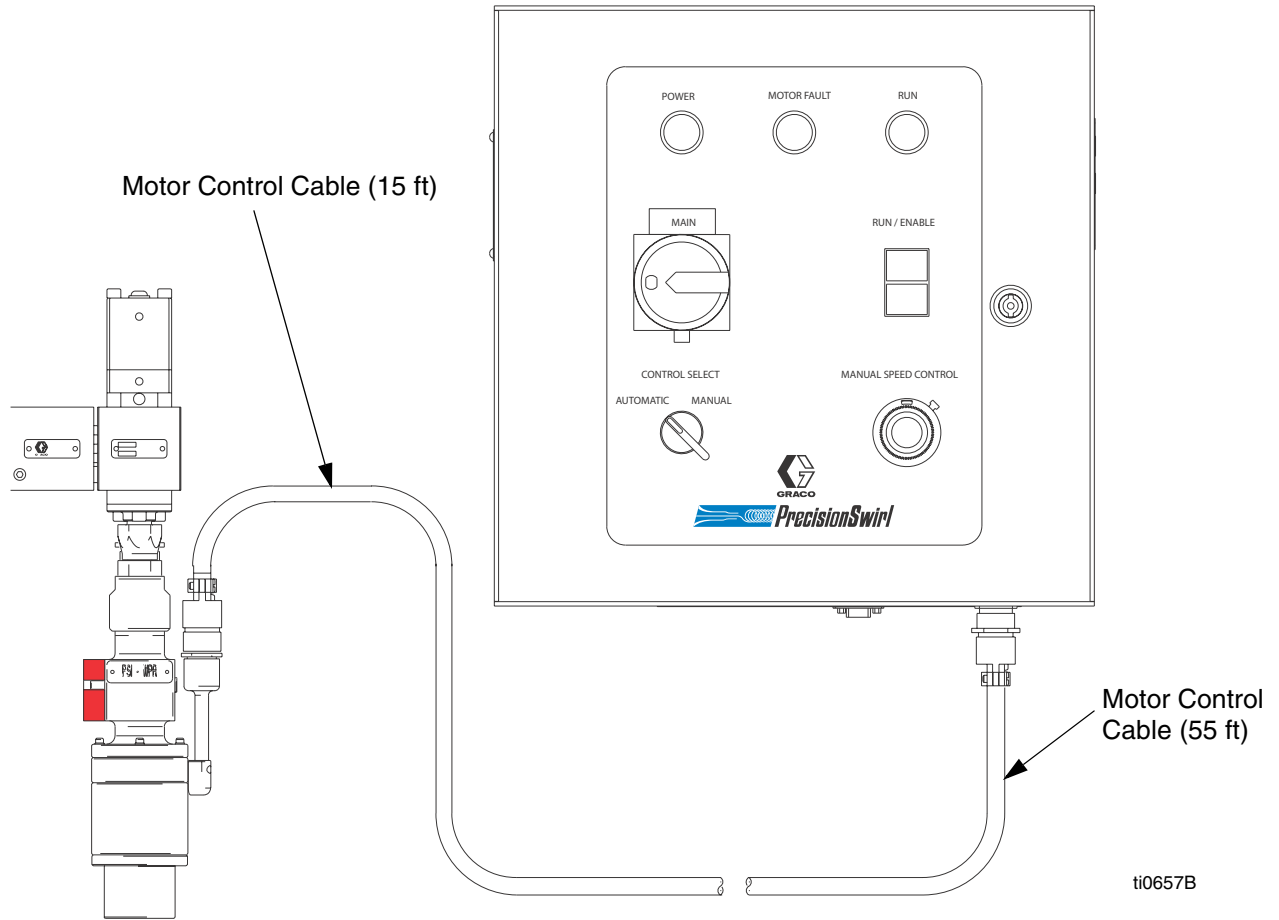

FIG. 9
2. Connect the orbital dispenser cable (55 ft) to the MOTOR CABLE receptacle. See FIG. 9.